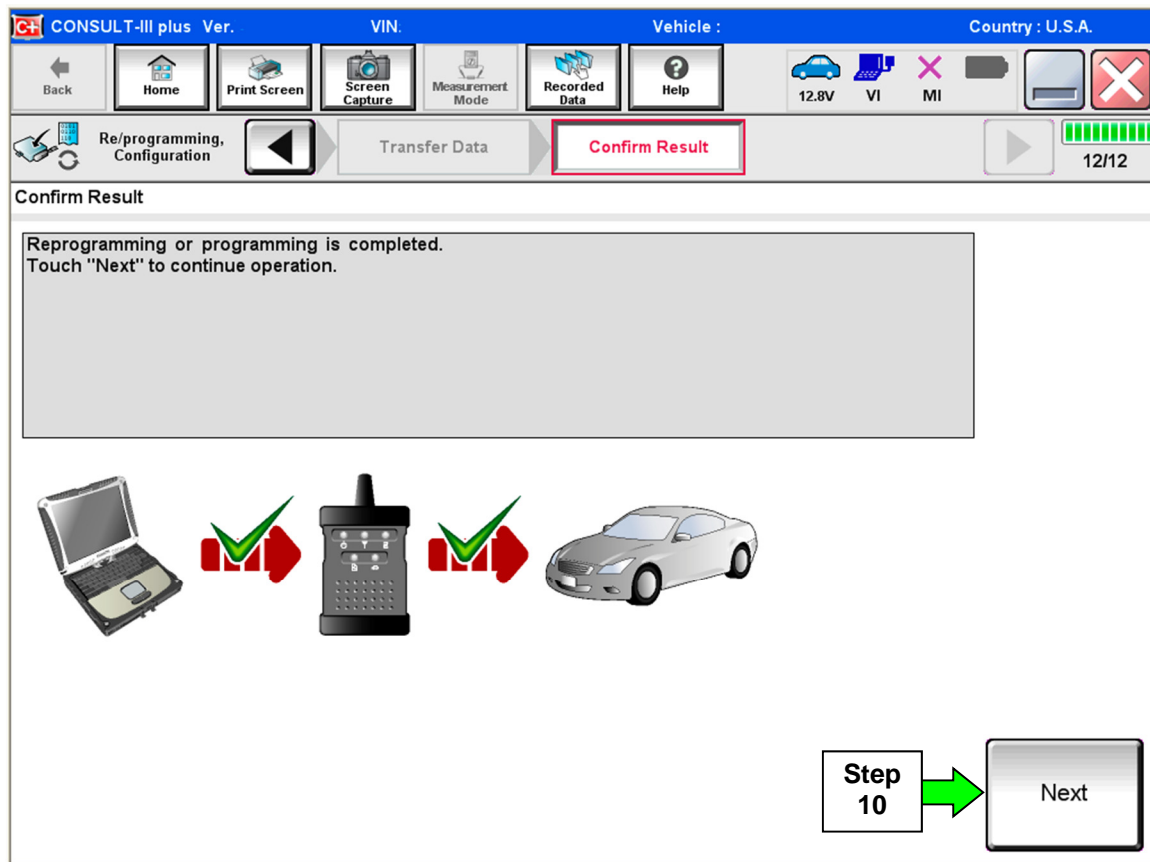

Figure 5
8. When the screen in Figure 5 displays, reprogramming is complete.
**NOTE:** If the screen in Figure 5 does not display (indicating that reprogramming did not complete), refer to the information on page 9.